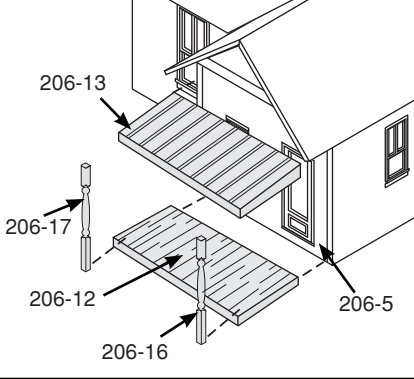

Fig. 3
**Back Porch Assembly:** Glue Back Porch Floor 206-14 to Wall 206-1 (Fig. 3). Glue Back Porch Brackets 206-18 and 206-19 to Wall 206-1, aligning Brackets vertically with the door trim and slightly above the top of the door frame. Align Back Porch Roof 206-15 with Brackets and glue in place.
**One-Piece Chimney:** Using the included Roof Support Material, cut roof supports. Supports should be shorter than the width of walls. Glue Supports so they are even with the Supports on other walls. If the walls are different heights, be sure the Roof sets below the top of the lowest wall. Generally, the Roof Supports should be glued about 1/8" below the top of the lowest wall. Glue the Roof to the top of Roof Supports. (**Fig. 3**)